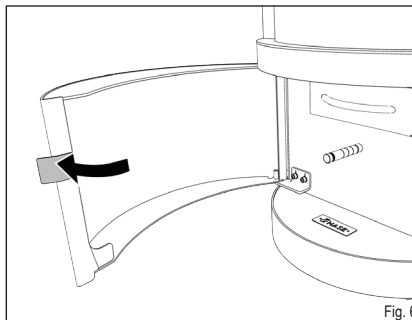

Fig. 6
- ▶ Open the service door (Fig. 6).